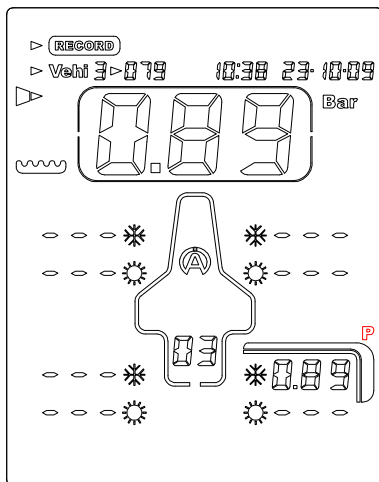

Figure 4
- 5) Apply the mouthpiece of the Tyrecontrol on the valve of the tyre (*figure 4*)